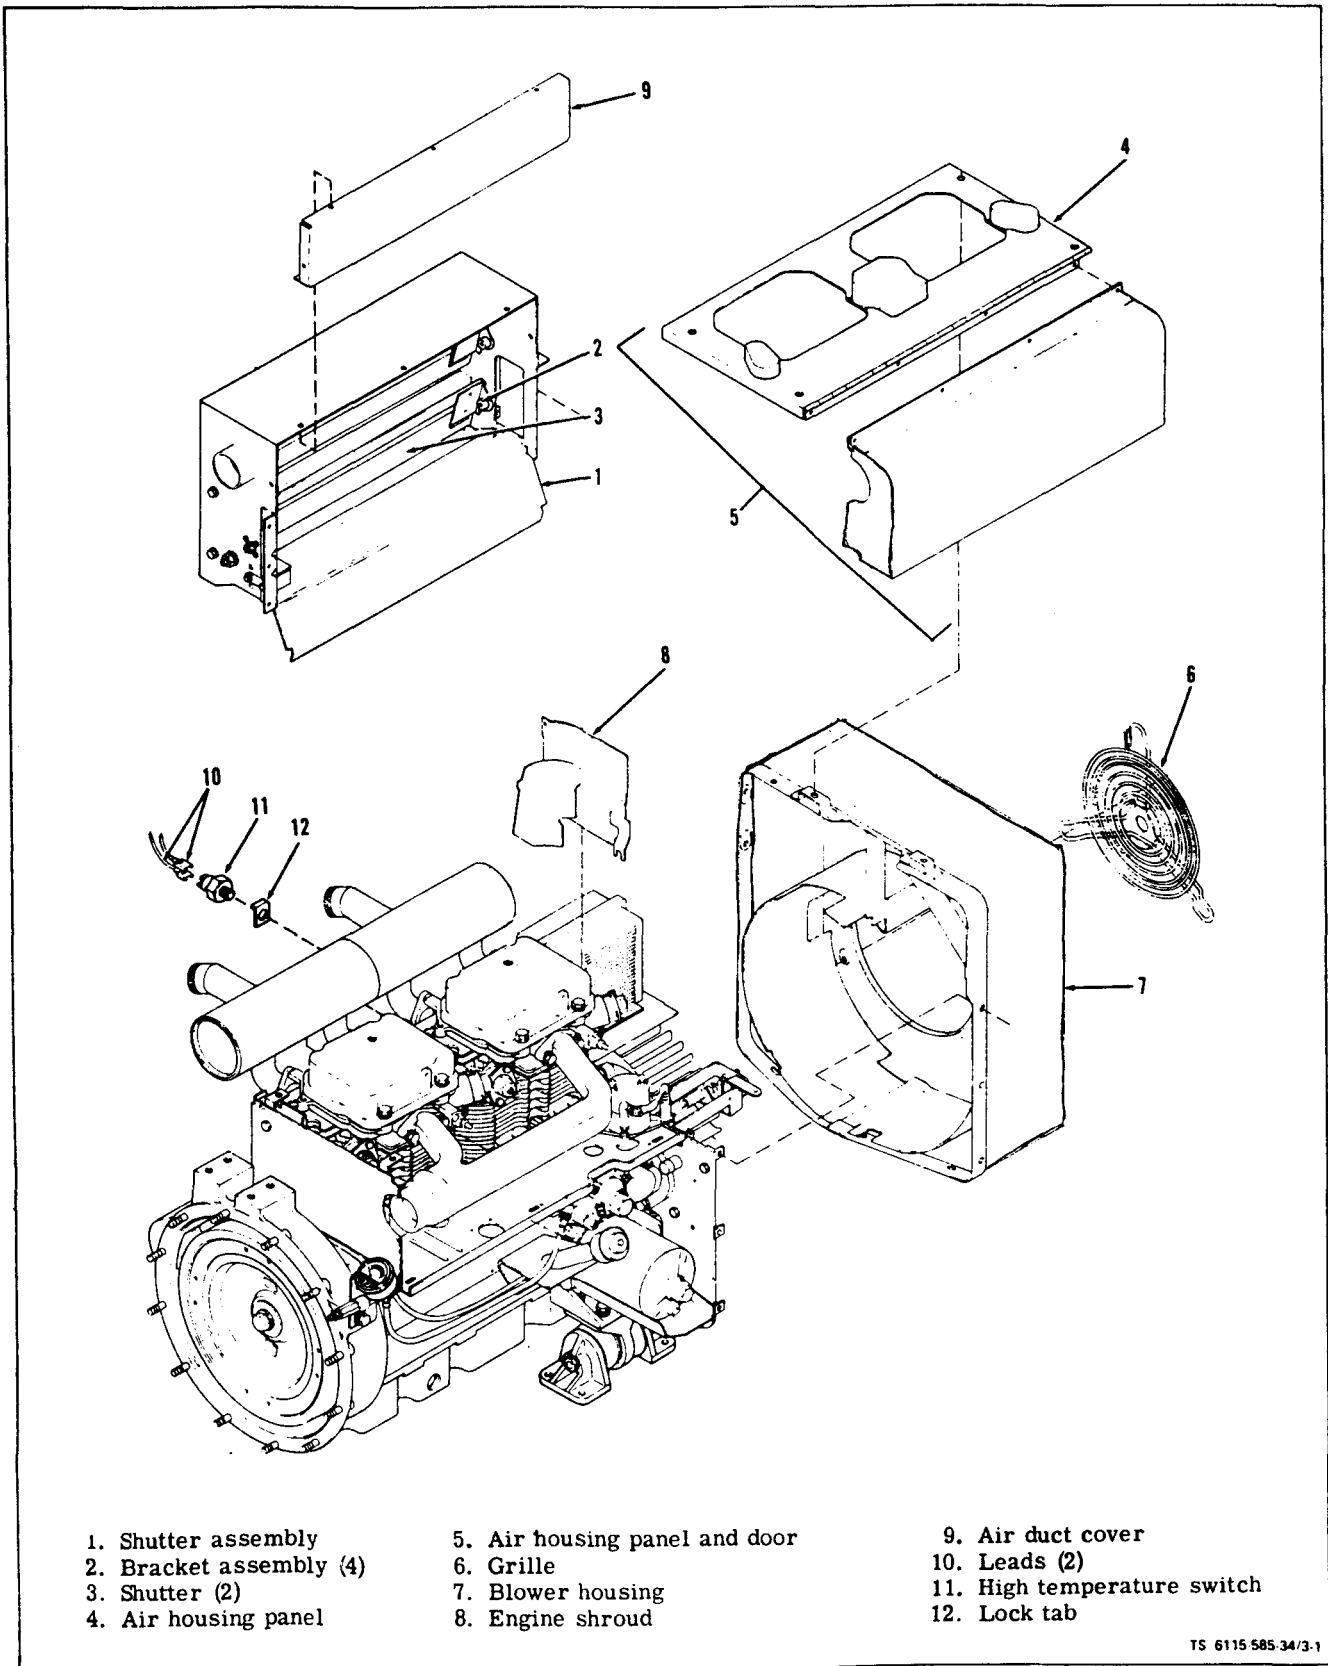

Figure 3-1. Engine Cooling System
a. **Inspect on equipment (see figure 3-1). On ASK equipped generators, refer to Operator and Organizational Maintenance Manual and remove cover assembly and exhaust plenum.**
(1) Shutter Assembly. Inspect shutter assembly (1) for physical damage. Check for debris within assembly. Check for smooth operation of shutters when moved manually. Check for chipped paint or rusting.
(2) Bracket Assembly. Inspect that brackets (2) are securely mounted to shutters (3). Check that bracket bearings are not excessively worn. Refer to Operator and Organizational Maintenance Manual
(3) Shutters. Inspect shutters (3) for physical damage and secure mounting to brackets (2).
(4) Air Housing Panel and Door. Inspect air housing panel and door (5) for physical damage.
(5) Grille. Inspect grille (6) for secure mounting to blower housing (7). Check for physical damage. **(For units without ASK.)**
(6) Blower Housing. Inspect blower housing (7) for physical damage. Check that blower housing is securely mounted to engine.
a. **Remove (see figure 3-1). On ASK equipped generators, refer to Operator and Organizational Maintenance Manual and remove top panel assembly and exhaust plenum.**
(1) Disconnect electrical leads (10).
(2) Straighten locking tab (12) and remove switch (11).